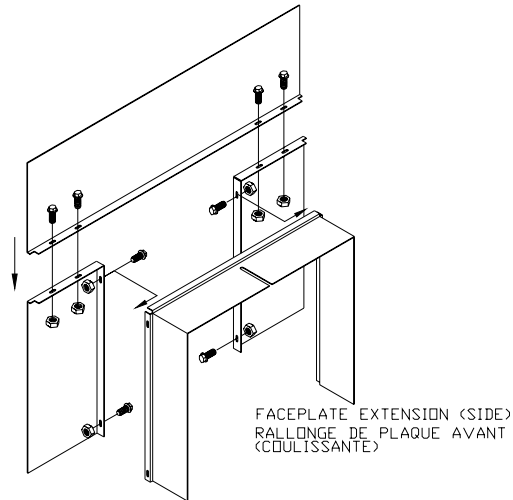

Figure 4
- B. Place the faceplate face down on a flat, nonabrasive surface (see Figure 4) so that the sides are a bit towards the middle.